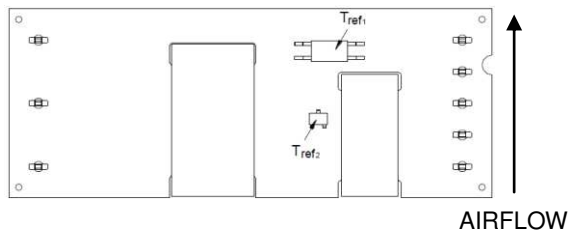

Figure 13. T_{ref1} & T_{ref2} Temperature Measurement Locations for Open Frame Module.
To provide protection under certain fault temperature conditions, the unit is equipped with a thermal shutdown circuit. The unit will shutdown if any of the thermal reference points identified in Figures 13 & 14, exceed the stated trip points (typical). However, the thermal shutdown is not intended as a guarantee that the unit will survive temperatures beyond its rating. The module can be restarted by cycling the dc input power for at least one second or by toggling the remote on/off signal for at least one second. If the auto-restart option (4) is ordered, the module will automatically restart upon cool-down to a safe temperature.
The thermal reference points, T_{ref1} and T_{ref2} , used in the specifications for open frame modules are shown in Figure 13. For reliable operation these temperatures should not exceed 110°C and 125°C respectively.